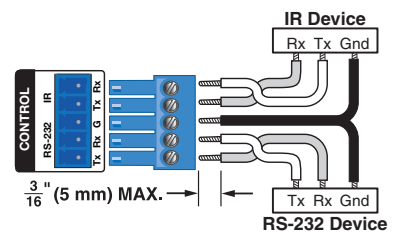

Figure 3. RS-232 and IR Wiring
- a. To pass serial, IR data, or control signals, such as for serial control of a projector, connect the master device to the transmitter and the controlled device to the receiver via the CONTROL 5-pole captive screw connector (see **E** and figure 3 for wiring).